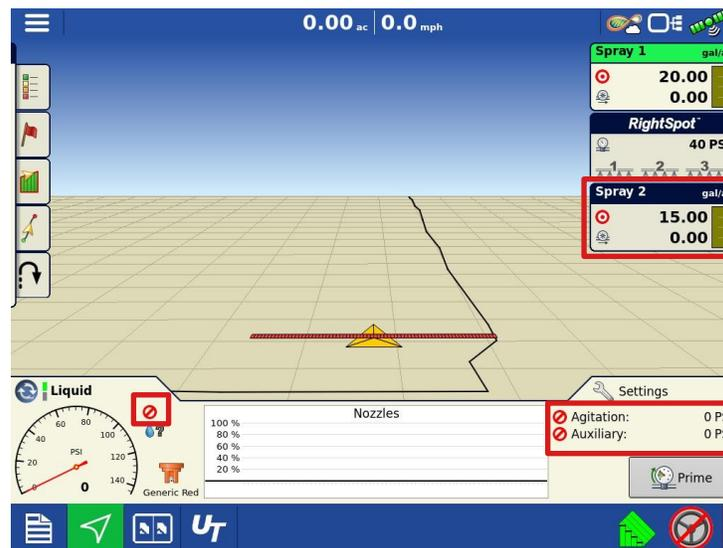

Figure 2 – Use multiple L2 modules in the same configuration allowing multiple product control
- **NEW:** Utilize multiple liquid modules in a single configuration (L2) (Figure 2)
- **NEW:** Indicate when a pressure sensor is uncalibrated (L2 & RightSpot™) (Figure 2)